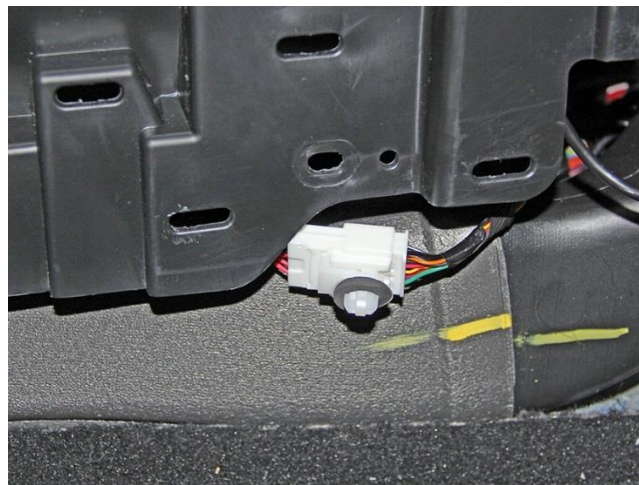

Figure 34. Disconnecting the 12V electrical connector
- w. Disconnect the 12V electrical connector (Figure 34).